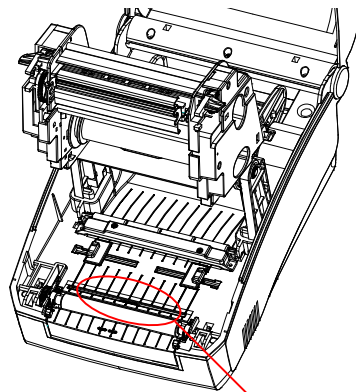

Figure 7-1
3. Lift the Printhead Module to expose the media sensor. (see Figure 7-1)